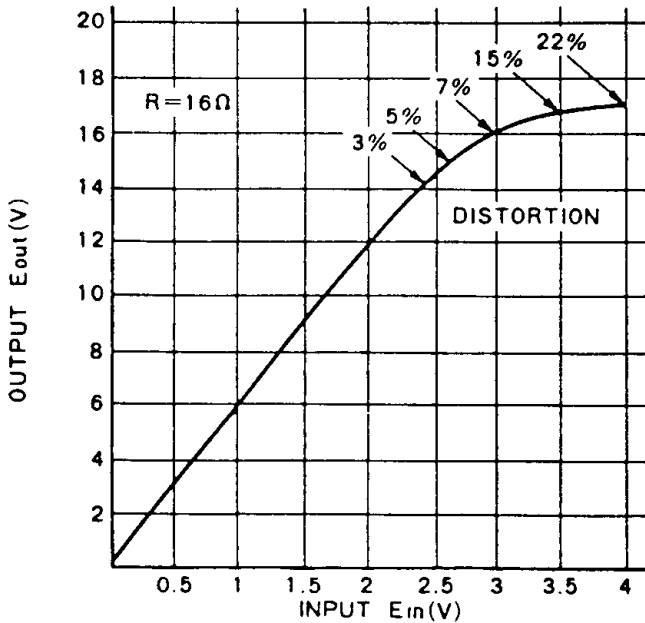

Fig. 4. Output characteristic.
- Plot the above output voltage readings on a system of rectangular coordinates marked on a graph paper with the axes of its ordinates and abscissas calibrated in volts for the output and input voltages respectively and connect the plotted points to obtain an input voltage vs. output characteristic curve. Fig. 4 shows an example of the characteristic curve thus obtained.
- In the example of the amplifier having the characteristic shown in Fig. 4, the maximum distortionless output may be calculated as:
- f. Note that the distortion factor of the amplifier with the characteristic curve shown in Fig. 4 cannot be known directly from this measurement, but may be roughly estimated from the degree of the curvature represented by the characteristic curve.